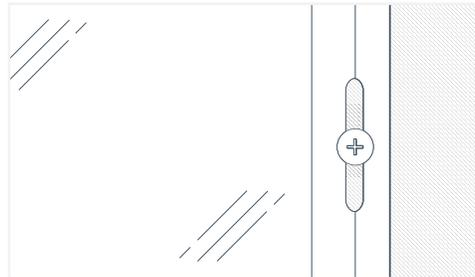

Fig. 5
- Always fasten in the center of the screw flange slots; fastening at the end of the slots can cause the panels to buckle or distort (Fig. 5 next page)